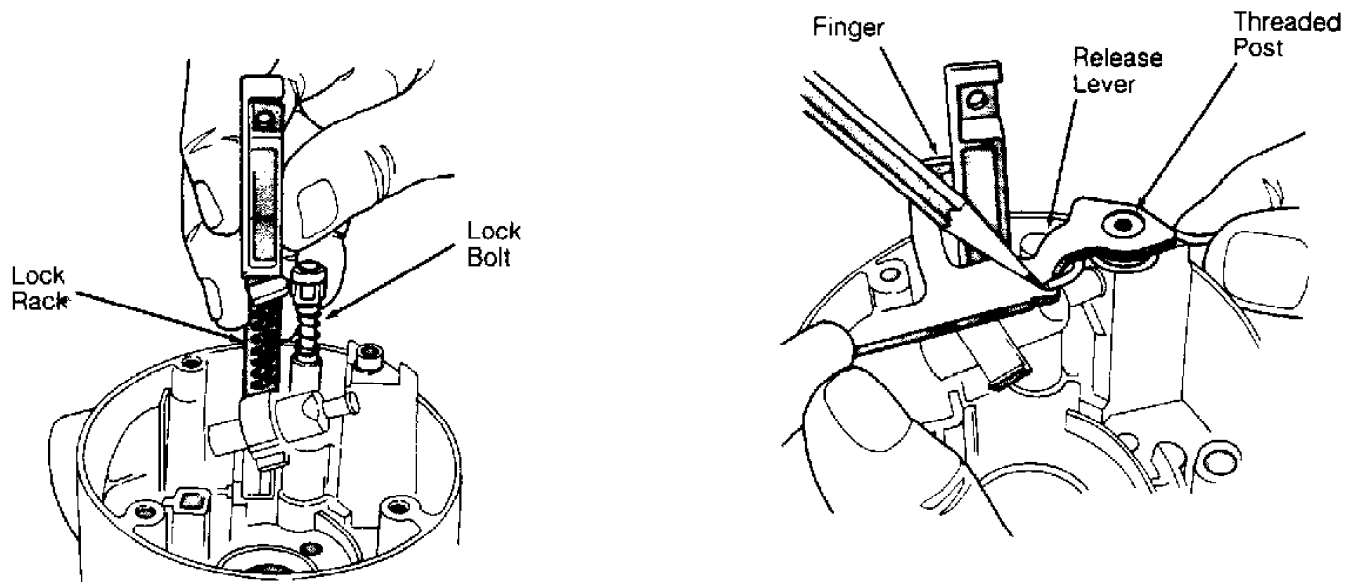

Fig. 5: Removing Lock Rack & Bolt Release Spring
1) Coat all friction surfaces with grease. Insert key sector through key/lock cylinder hole. Install lock sector shaft. Ensure sector turns freely. Install lock rack preload spring. Assemble lock bolt and rod and install assembly in housing. Mate assembly with lock sector gear teeth. Install shift lever detent plate on housing. See Fig. 5.
10) On models equipped with floor shift, install key release lever return spring over threaded pivot post on housing. Insert key release finger in lock rack slot and position hole in lever over threaded pivot post. See Fig. 5. Ensure inner end of spring contacts release lever.